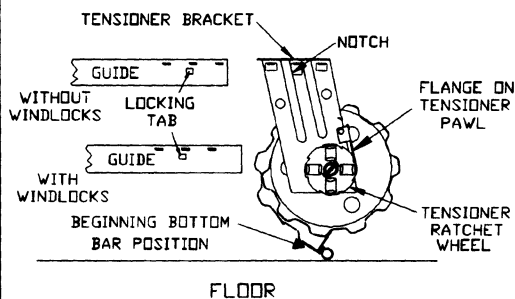

FIGURE 4
- A. At tensioner end of door, lift flange on tensioner pawl until end of the pawl clears the tensioner ratchet wheel. Rotate bracket in order to position short leg end upward. Release flange on pawl and allow end to engage with the nearest tooth on the ratchet wheel. See figure 4.